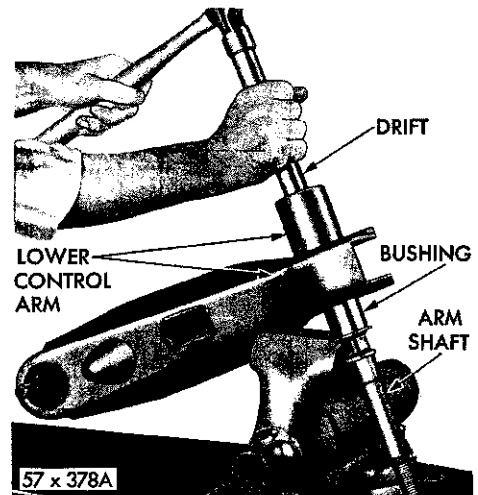

Fig. 9—Removing the Lower Control Arm Shaft and Bushing
(4) Tighten the nut on the forward end of the strut to 40 foot-pounds torque with the full weight of the vehicle on the wheels.
(5) Install the sway bar (if so equipped).
(6) Set the front end alignment (Paragraph 3).
8. LOWER CONTROL ARM AND SHAFT (Fig. 9)
(1) Place the lower control arm in an arbor press (with torsion bar hex opening up). Press the shaft and bushing out of the control arm, using a brass drift (Fig. 9).
(2) Remove the cotter pin, nut and washer from the end of the shaft, and remove the bushing from the shaft.
(3) Using Tool C-3560 for Models VC-1, VC-2, and VC-3 or Tool C-3561 for VY-1 unscrew the ball joint from the lower control arm.